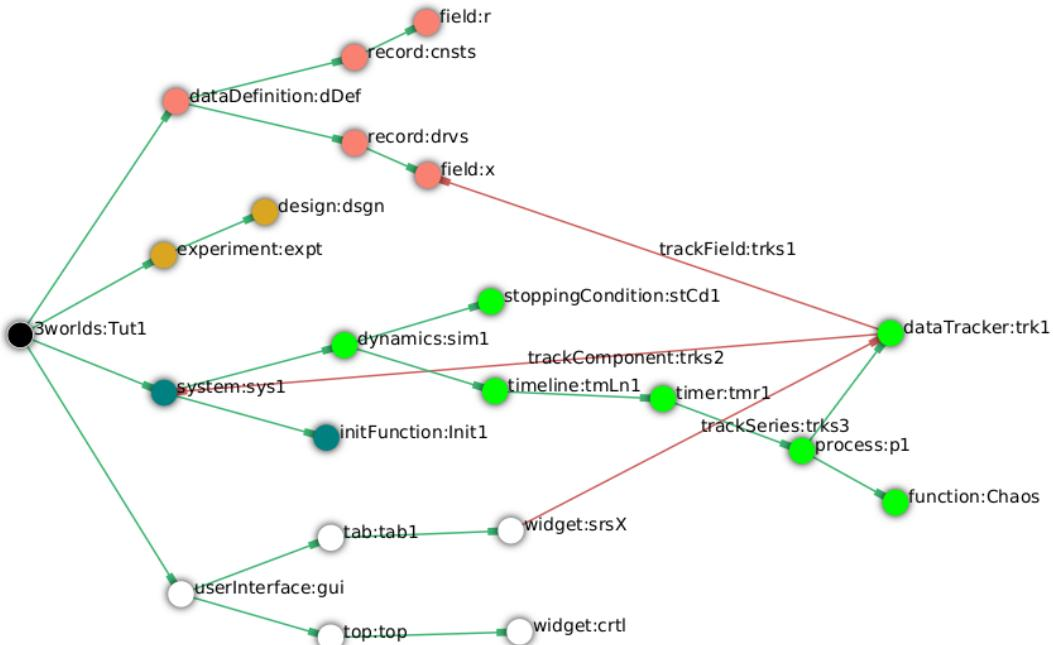

Figure 33. The specification graph for Tutorial 1.
21. Select this new node and in the properties editor, set the value of `stCd1#endTime` to 100 (Figure 33).